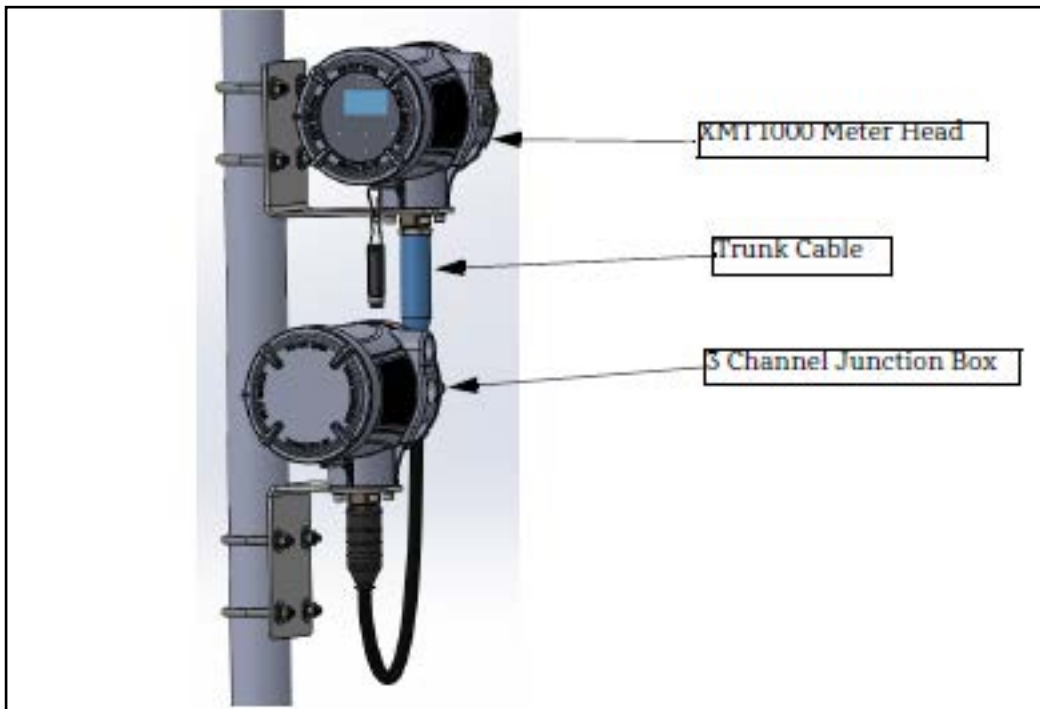

Figure 29: XMT1000 Trunk Cable Placement
1. Thread MCX end of 6 conductor cable trunk into XMT1000 meter head and the BNC connector end of the cable into the 3 channel Junction box as seen in Figure 29.